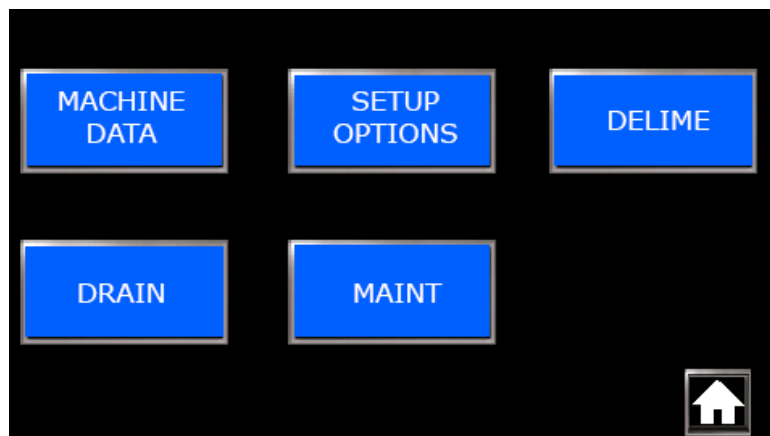

Fig. 30 - Supervisor menu
- The Mode accesses: MACHINE DATA, SETUP OPTIONS, DELIME, DRAIN, and MAINT, Fig. 30.